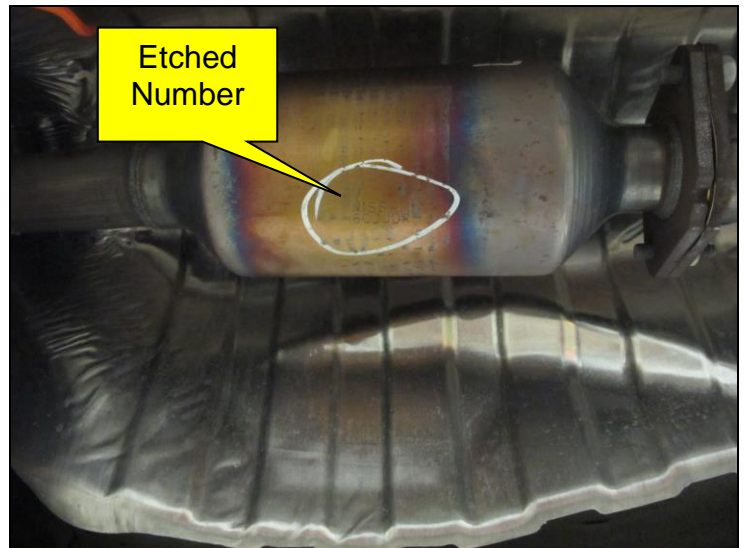

Figure 4
4. Find the etched number in the center of the rear of the front exhaust tube and go to step 5 to complete the inspection (Figure 4).